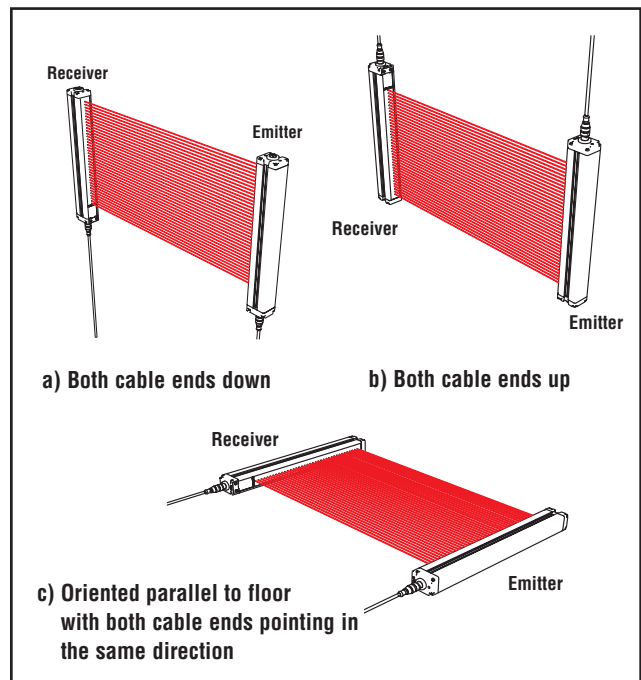

Figure 3-5. Examples of correct emitter / receiver orientation
**Important: The connector ends of both sensors must point in the same direction** (see Figure 3-5 and warning, Section 3.1.3). Mount the emitter and receiver mounting brackets (see below) using the supplied M6 bolts and Keps nuts, or user-supplied hardware; see Figure 3-9.